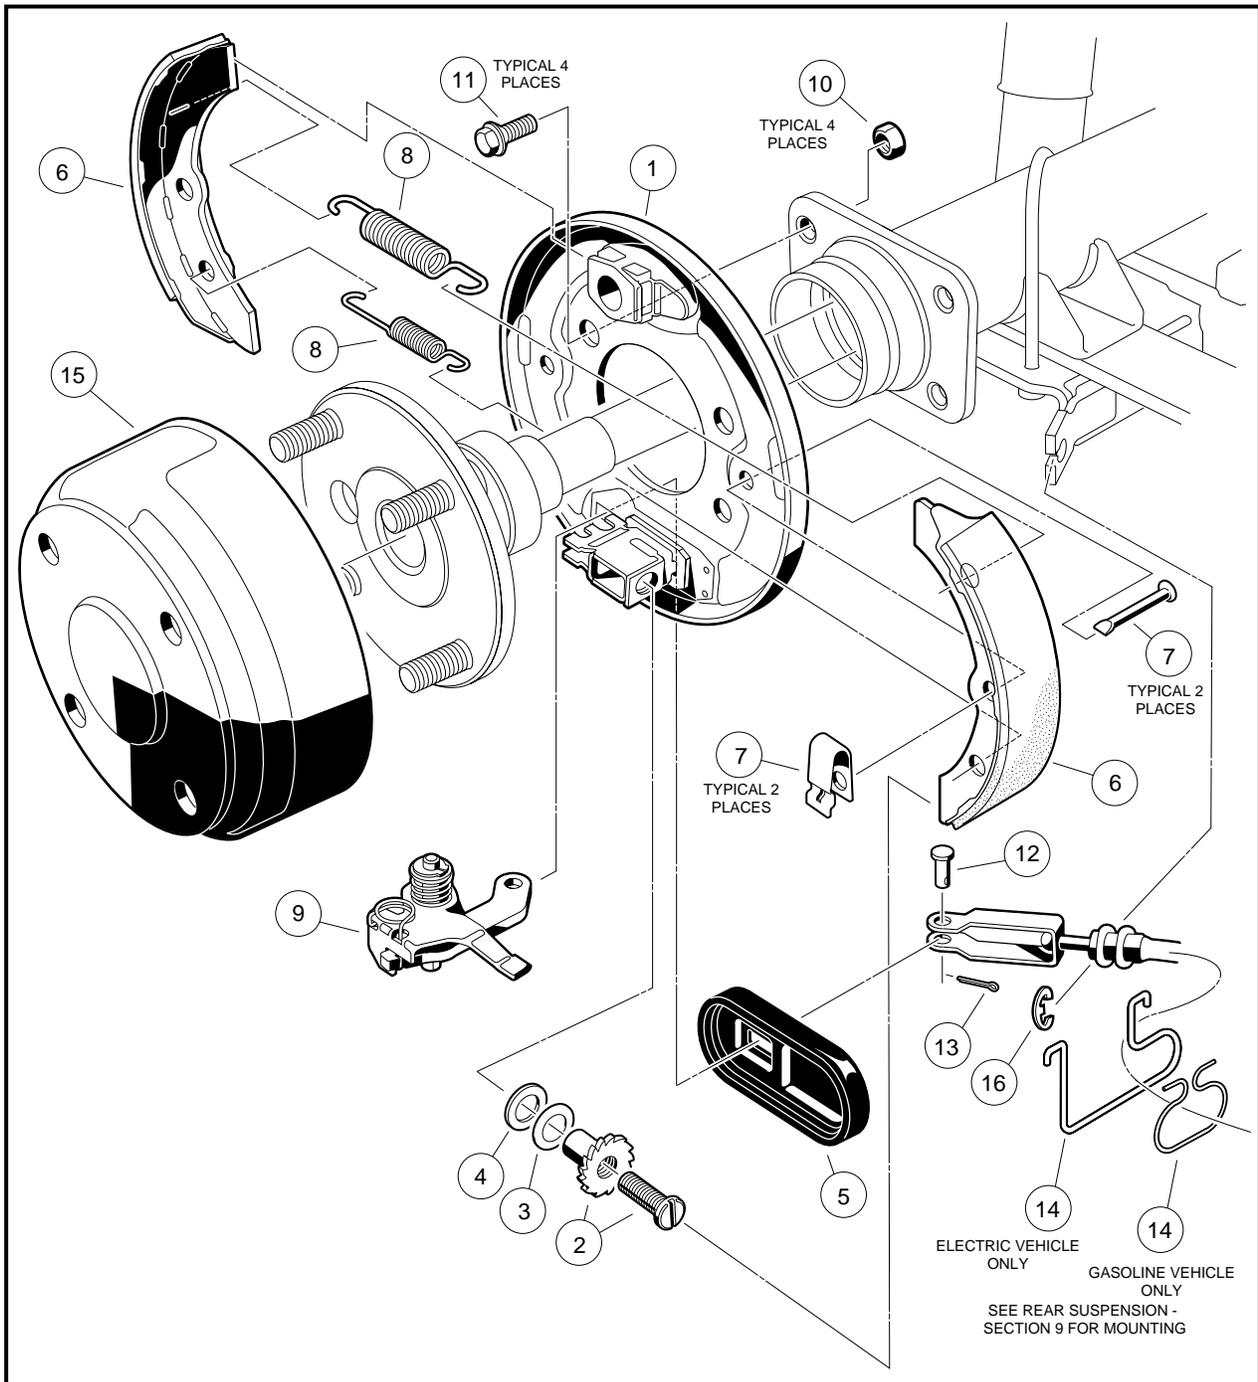

Figure 6-1 Self-adjusting Wheel Brake Assembly
5. Remove cotter pin (13) and clevis pin (12) from brake cable (**Figure 6-1, Page 6-2**).
6. Remove four bolts (11) and lock nuts (10) that mount the brake assembly to the transaxle (**Figure 6-1, Page 6-2**).
2. Be sure bolts (11) (Club Car Part No. 1014153) and lock nuts (10) (Club Car Part No. 1013924) are used to mount the brake assembly (**Figure 6-1, Page 6-2**).